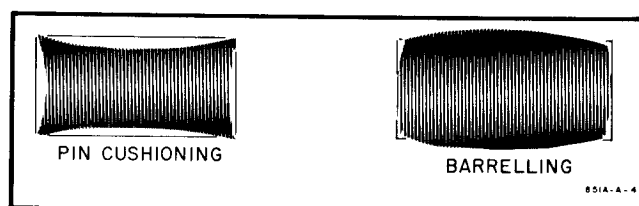

Figure 5-1. Pincushioning and Barrelling
7. Check displayed pattern for excessive barrelling or pincushioning (Figure 5-1); if present, adjust the Geometry control, R643, to obtain the straightest possible edges on the rectangular pattern.